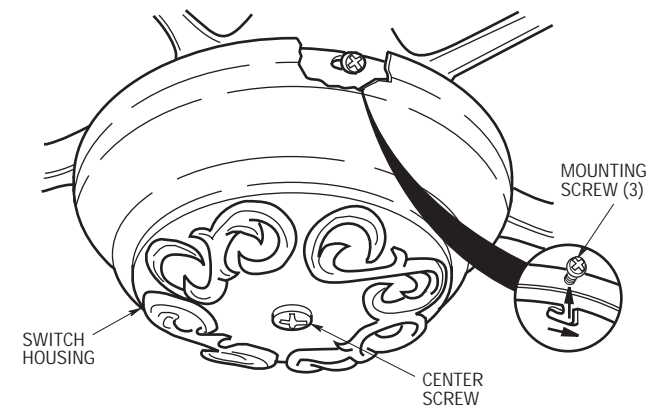

Figure 15
- 21. Engage the two slots in the switch housing with the two loosened mounting screws in the switch housing plate (Figure 15). Rotate the switch housing to the right, then tighten the two mounting screws and install the other mounting screw previously removed in Step 19.